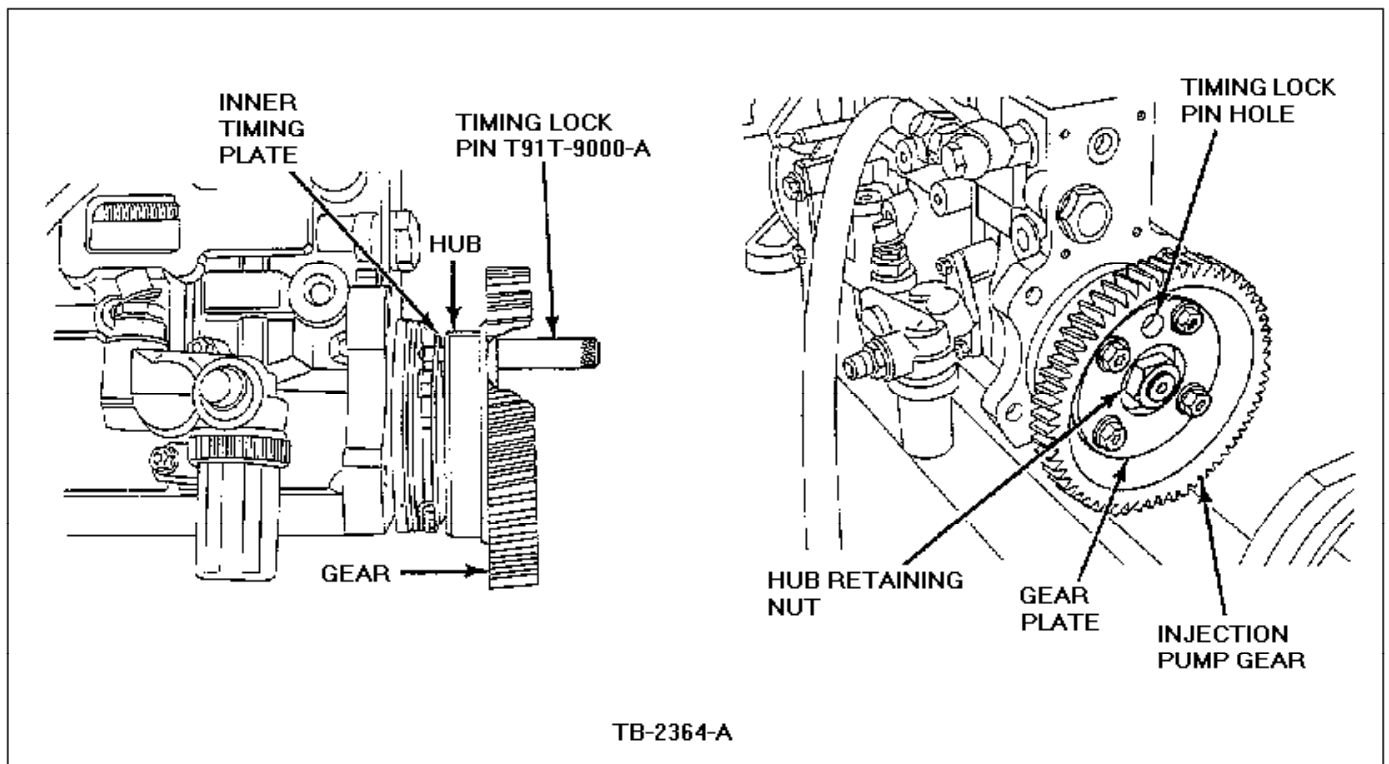

Figure 3 - Article 91-25-20
3. Insert the Injection Pump Aligning Pin T91T-9000-A through the gear plate, gear, hub and into the inner timing plate hole, Figure 3.